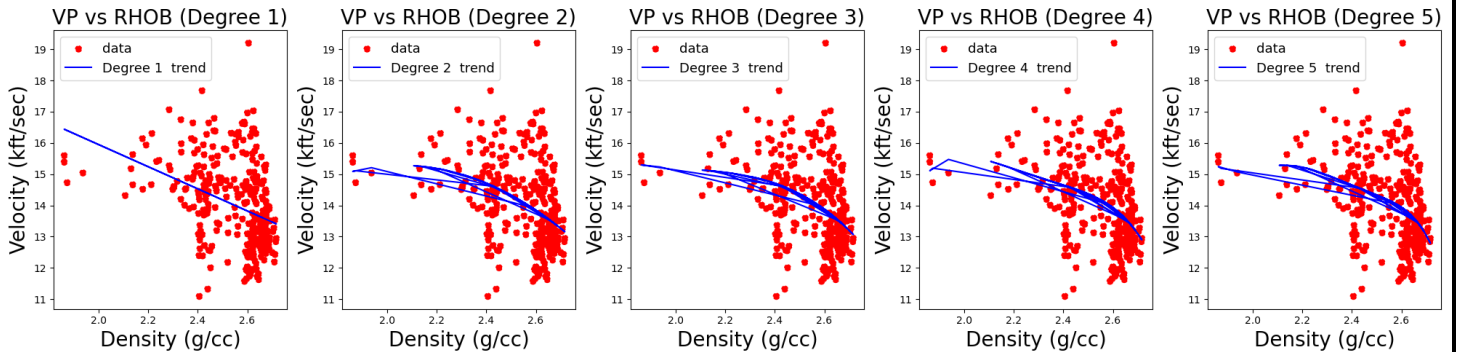

Figure 22: velocity vs density curve to know the overpressure mechanism
- From the figure 22, I can easily say that density is not much changing but velocity is rapidly dropped.